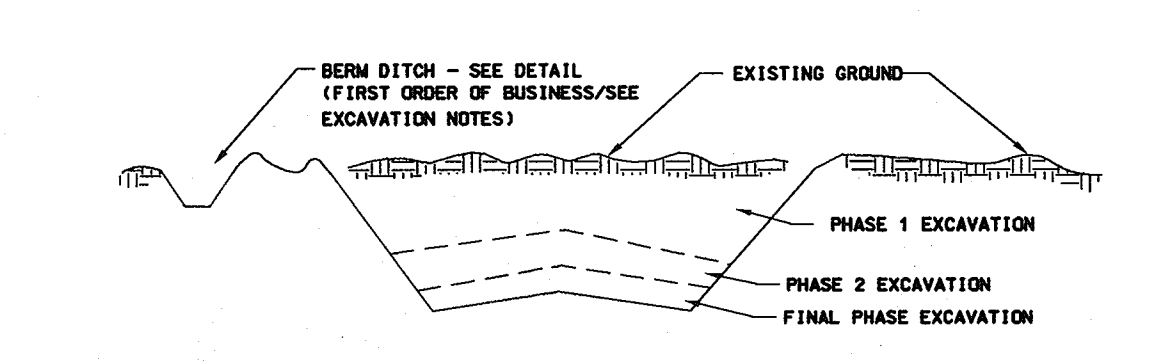

Figure 4 Incremental Stabilization - Cut
2. Construction sequence (refer to Figure 4 below):